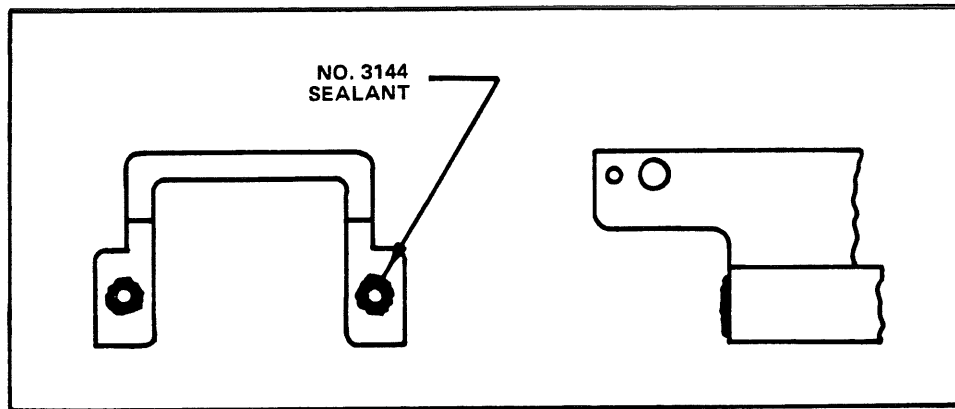

Figure 35. Sealing of latch assembly screwholes.
STEP 33. Attach Latch Assemblies (2 ea.) to the Front Cover (see Figure 35)
(1) TPN 200-1759-00, MPL Item 1-29.
- (1) Clean mating surfaces of Front Cover and Latch Assembly with isopropyl alcohol.
- (2) Apply No. 3144 sealant to the two screw-holes in each Latch Assembly as shown in Figure 35.
- (3) Attach the two Latch Assemblies to the Front Cover.